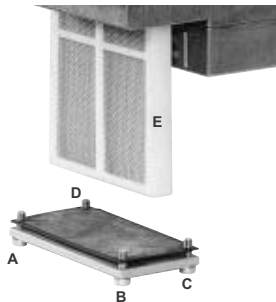

Fig. 35
- 2 Remove screws 1 ÷ 6 (Fig. 35).